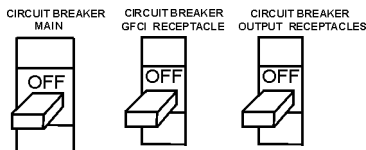

Figure 31. Main, GFCI and Load Circuit Breakers
1. Be sure to disconnect the electrical load and switch the **MAIN LOAD** and **G.F.C.I.** circuit breakers (Figure 31) to the "OFF" position prior to starting the engine.